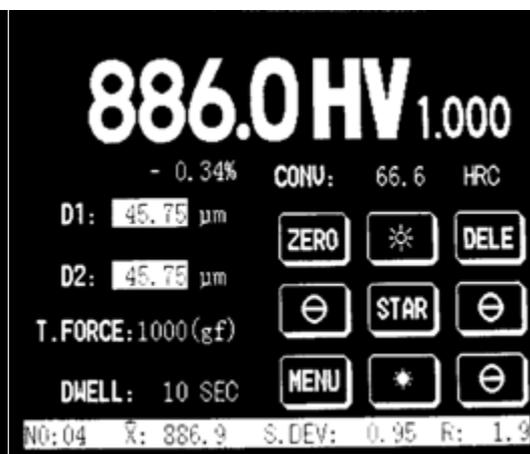

Figure 5-4 Test Completes
- The main screen displays the hardness value. Refer to Figure 5-4. If you enter the wrong number, you can touch the white block of D1/D2 on the main screen and enter the correct number.
8. The main screen display the hardness value (Figure 5-4). If you enter the wrong number, you can touch the white block of D1/D2 in the main screen and enter the correct value.